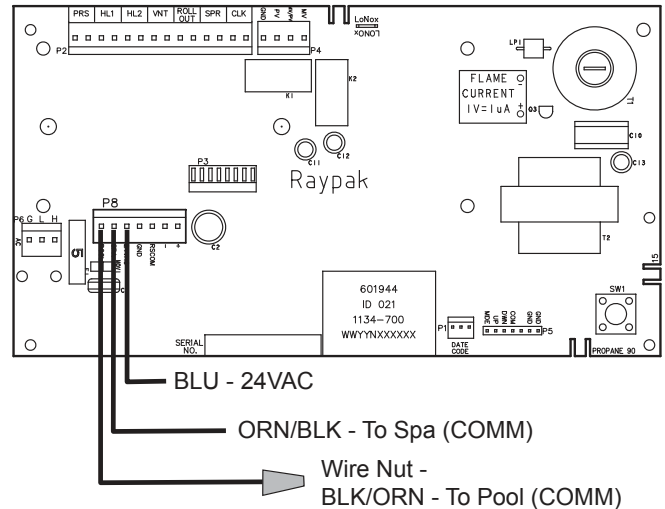

Figure 54. 2-Wire Remote Harness Installation on the P8 Connector of the Board
- Install the “7-Pin Remote Interface Harness” to the P8 connector and turn power “ON” to the heater. See **Figure 54**.